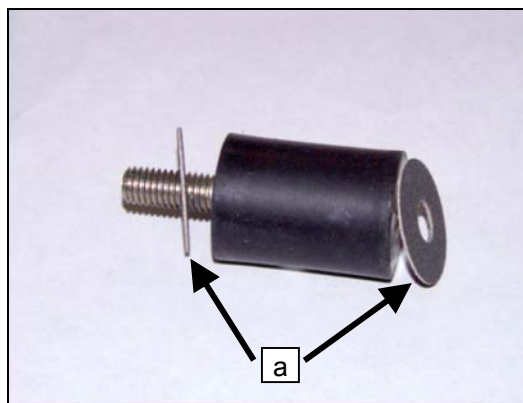

Fig. 13
- While mounting the rubber-metal bearings, make sure that there is an anti-twist device (Fig. 13, a) on both sides of the bearing to prevent it from turning.